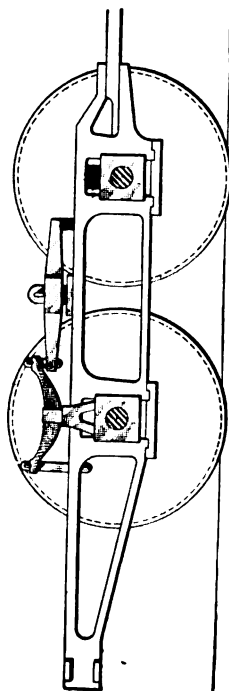

FIG. 25.
59. In the event of the main spring on an eight-wheeled engine breaking, proceed as follows: Run the main driver up on a wedge so as to relieve the back spring as much as possible; then, by means of a pinch bar, pry up the front end of the equalizer until it is level, and block it there, as shown in Fig. 25. Then run the main driver off the wedge, run the back driving